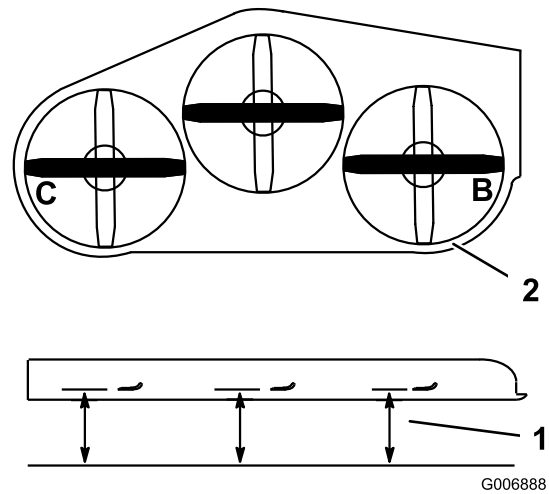

Figure 92
1. Position the right blade side-to-side (Figure 92).
2. Measure the right blade at the **B** location, from a level surface to the cutting edge of the blade tip (Figure 92).
4. Position the left blade side-to-side (Figure 92).
5. Measure the left blade at the **C** location (Figure 92), from a level surface to the cutting edge of the blade tip.